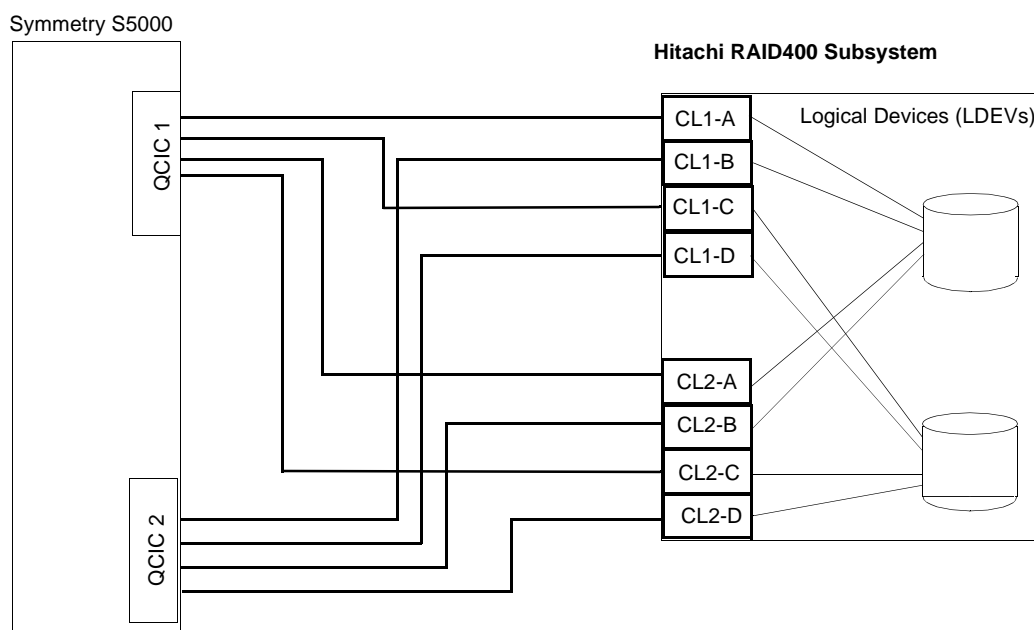

Figure 5-5.
- Figure 5-5 shows cabling for a typical QCIC-E SCSI connection to an IBM Symmetry S5000 host system.